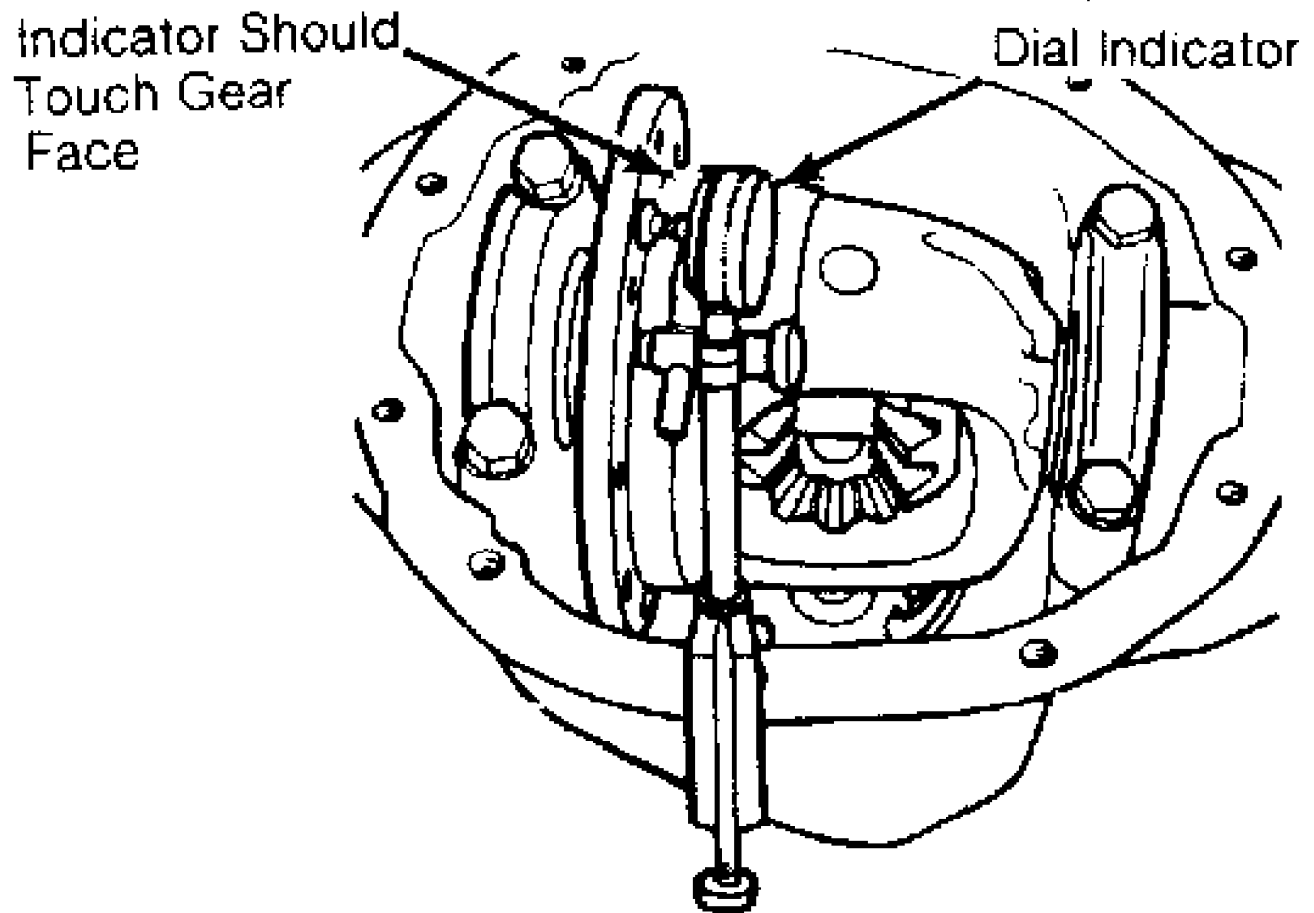

Fig. 9: Checking Carrier Bearing End Play & Runout
2) Install bearing caps. Tighten bolts finger tight. Mount dial indicator to housing. See Fig. 9. Using a pry bar between shims and housing, move assembly to one side. Zero dial indicator. Pry assembly to opposite side. Record indicator reading. DO NOT zero or read indicator while prying.
4) When all side play is eliminated, check drive gear face of carrier for runout by rotating carrier and reading dial indicator. Runout should not exceed .002" (.050 mm). Remove carrier from housing, and retain shims. See Fig. 9.